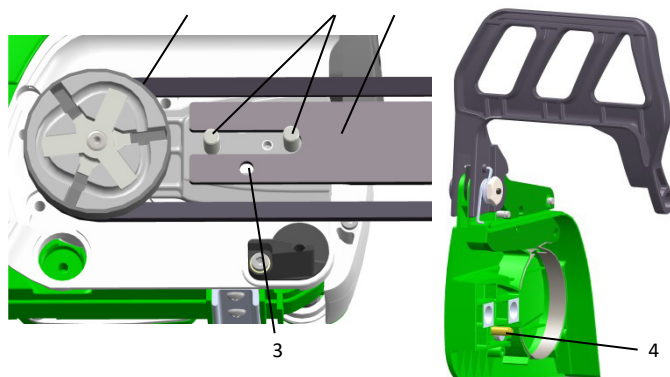
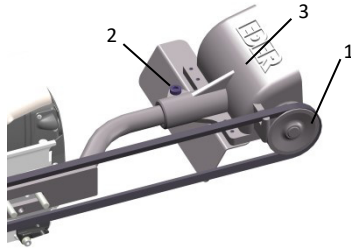

Figure 3: Mounting carriers and hanging wedge belts
Figure 4: Attachment of the peeling head to the carrier
- > Place the carrier (1 – Figure 3) with the slot between the threaded pins (2 – Fig.
- > The hole (3 – Fig.3) in the carrier must be set in the customer by the chain spanner. This depends on the engine side chainsaw type or mounted in the lid (4 – Fig.3).
- > Hang the wedge strap between Clutch drum (5 – Fig .3) and Wedge pane (1 – Figure 4 2 e.1
- > Make sure the strap is already a bit advanced. Otherwise, loosen the inner six-cab (2 – Fig.4) and slide the peeling head (3 – Figure 4) forward on the wearer until the belt is stretched forward. Tighten the inner six-cantor again.
- > Spare the wedge belt by adding the wedge belt to the cuneilbelt (4 – figure.3) Turn clockwise